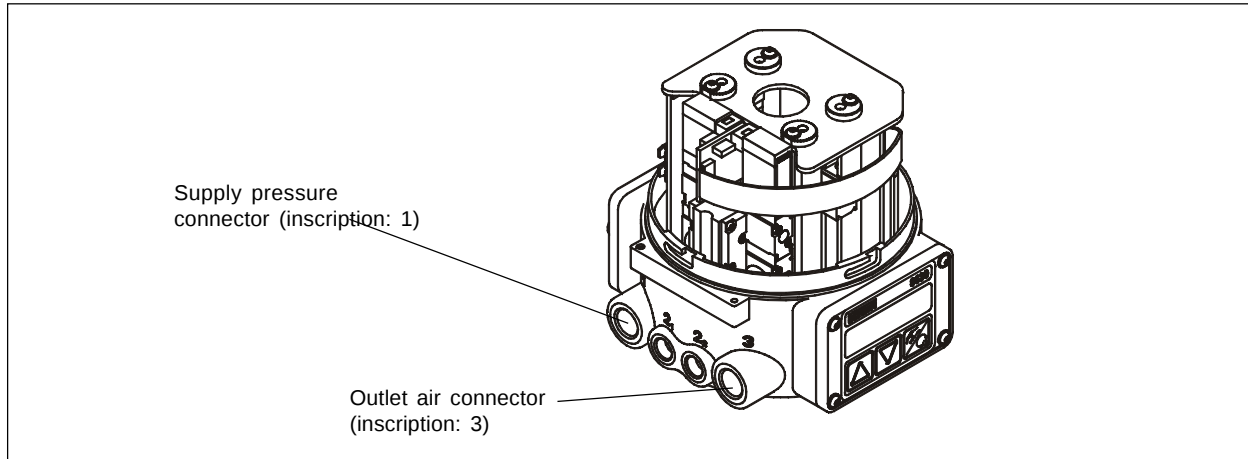

Bild 5.1: Fluidic connections of the TopControl
- ➔ Connect the air supply (3..7 bar, instrument air, oil, water and duster) to port 1 (Fig. 5.1).
- ➔ Mount the exhaust air pipe or noise reducer on port 3 (Fig. 5.1).